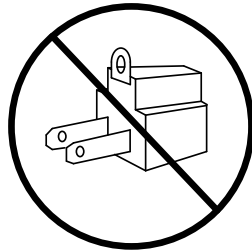

Figure 5
- Do not use an adapter. (See Figure 5).